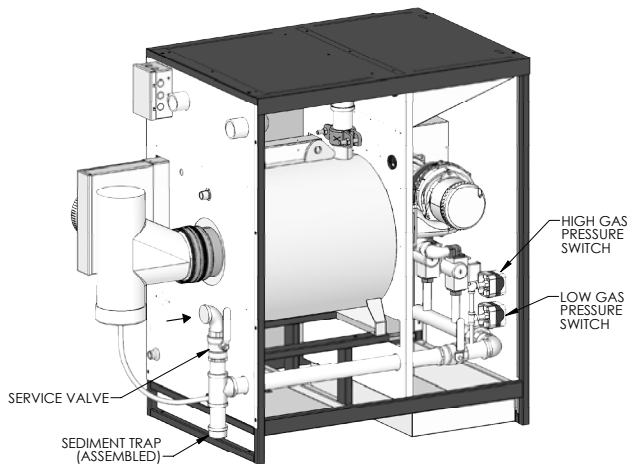

Figure 5.1: Gas Supply Pipe and Shutoff
2. A sediment trap is included from the factory into the supply piping at the boiler. Figure 5.1 shows the sediment trap at the rear of the boiler near the base.
3. High and low gas pressure switches are provided on the gas supply header inside the boiler cabinet. Figure 5.1 shows the pressure switch location.
4. Install the service valve, supplied by the factory, as shown in Figure 5.1 on the inlet to the boiler gas piping.
- c. The high and low gas pressure switch locations can be seen in Figure 5.1.